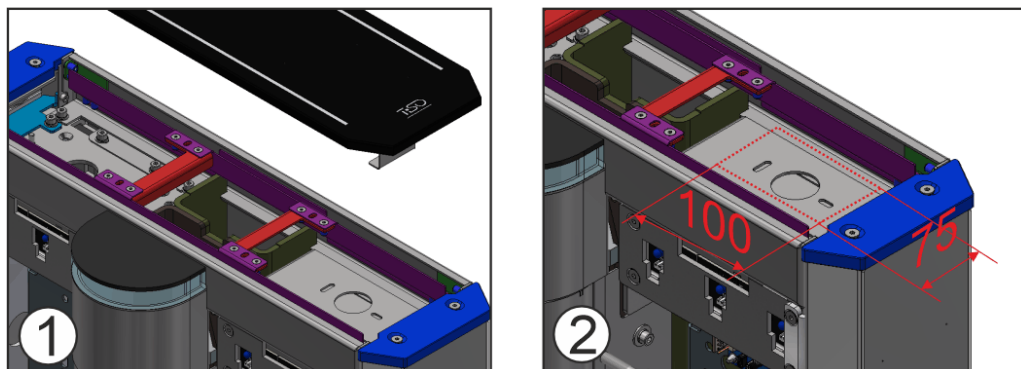

Fig.24 - Installation of proximity card reader
- 1 – The turnstile glass top lid to be removed (Fig.24);